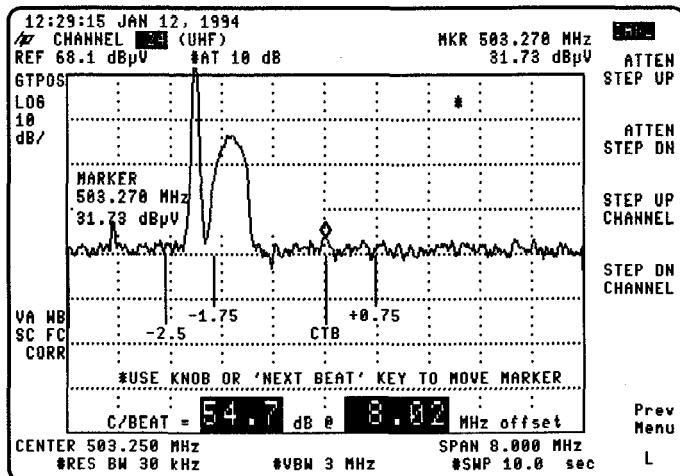

Figure 2-21. CTB Measurement (GATE ON)
10. Use **NEXT BEAT** or the front-panel knob to position the marker at the CTB point (as shown in Figure 2-21) and perform the CTB measurement.